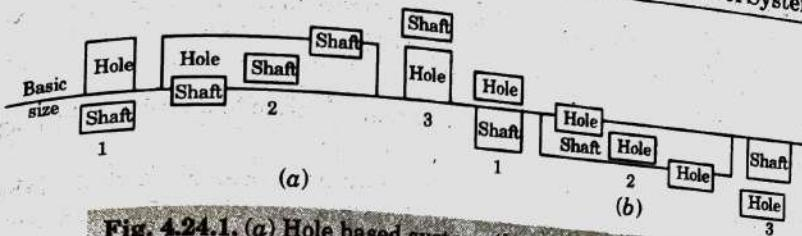

Fig. 4.24.1. (a) Hole based system, (b) Shaft based system.
- Refer Fig. 4.24.1(a) in this system, lower deviation of hole is zero.
- Refer Fig. 4.24.1(b) this system, the upper deviation of shaft is zero.